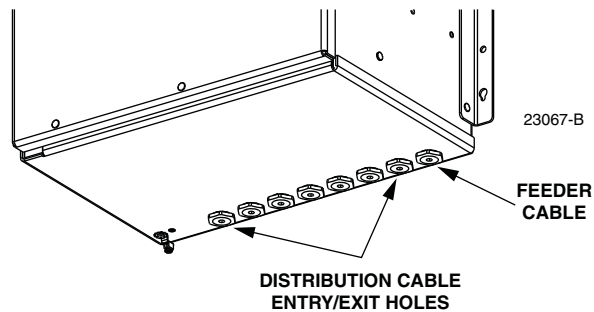

Figure 29. Feeder Cable Bottom Entry/Exit Hole
13. Locate the cable entry/exit hole (on the bottom of the cabinet) that is specified for feeder cable installation as shown in Figure 29.